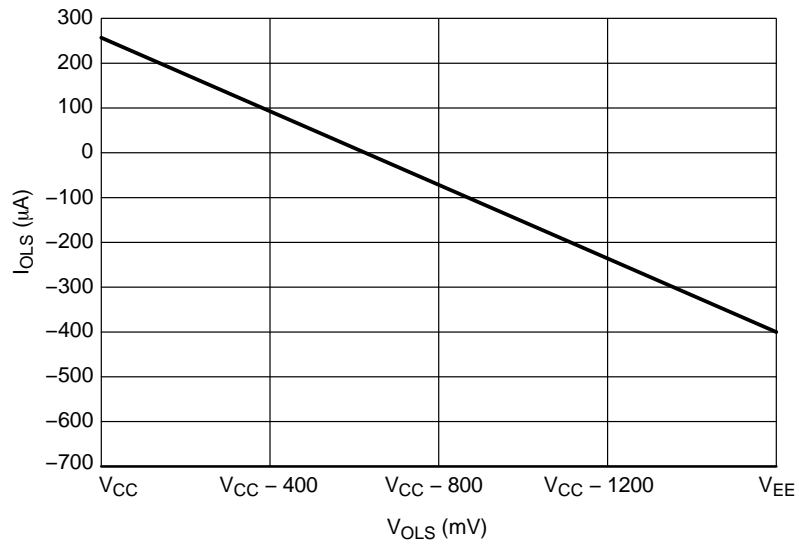

**Figure 9. Duty Cycle % vs. Input Frequency ( $f_{in}$ )**
28. See Figure 9. Duty Cycle % vs. Frequency.